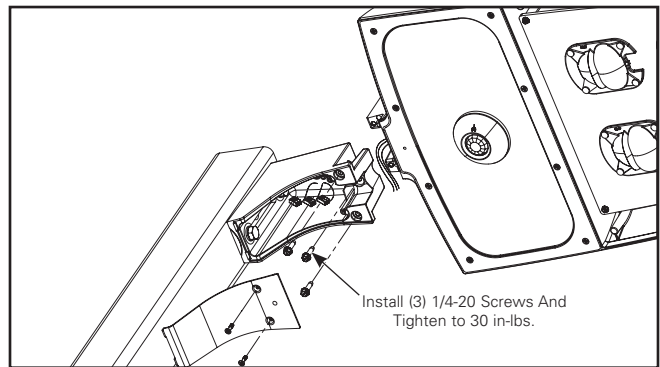

Figure 3.
3. Fold fixture wire leads tightly towards fixture door when sliding fixture on to mounting arm. Install the (3) 1/4-20 x 1" screws and tighten to 6 ft-lbs. Tighten the center screw first as shown in (Figure 3).
Note: Ensure the luminaire supply leads do not get pinched between cover and mounting arm as shown in (Figure 3 & 5).